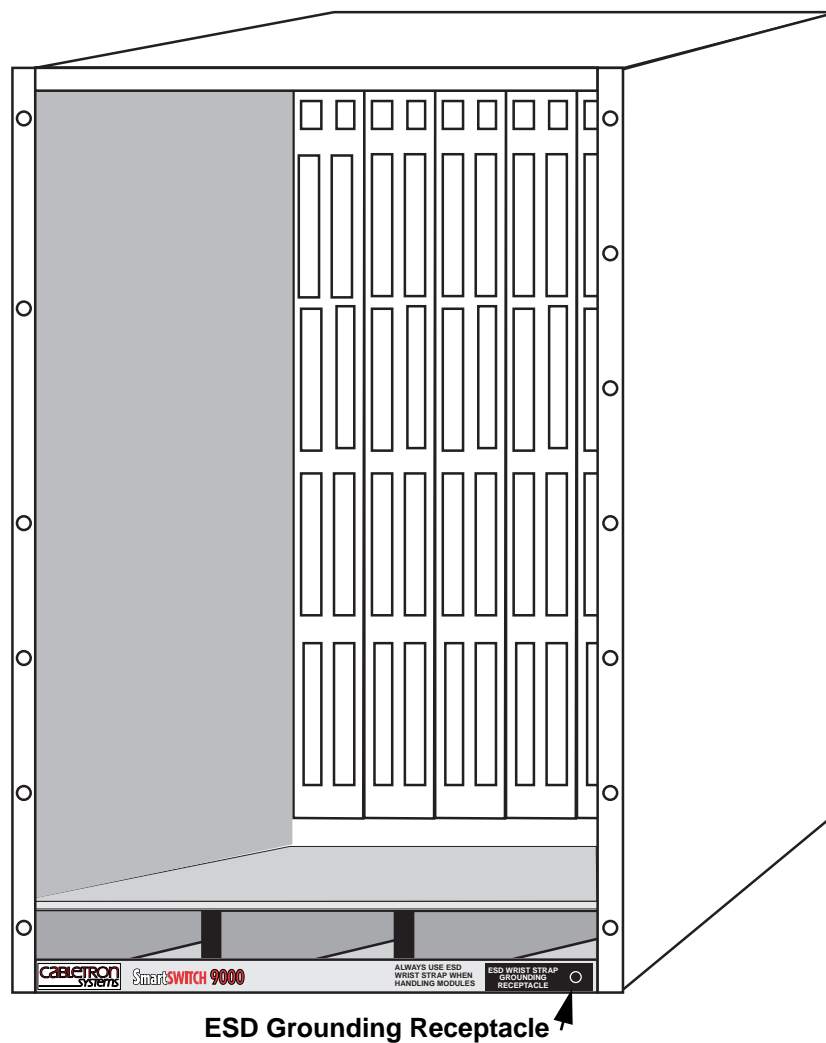

Figure 1-4. Attaching the ESD Wrist Strap
2. Plug the other end into the ESD Wrist Strap grounding receptacle in the front lower right corner of the SmartSwitch 9000 chassis, as shown in Figure 1-4.